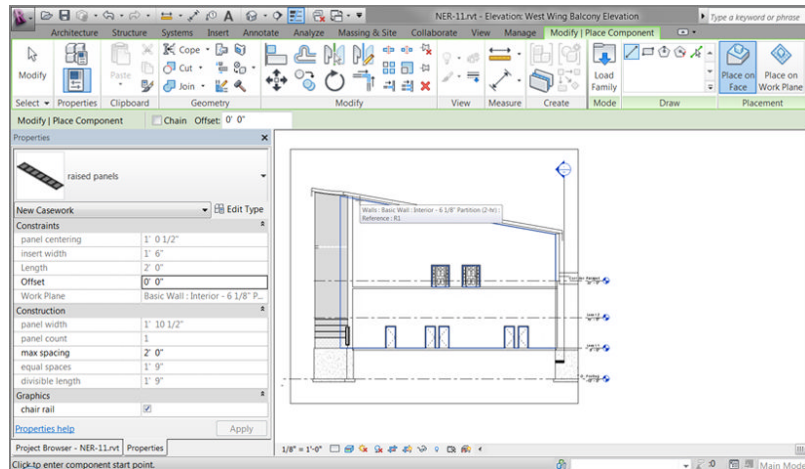

FIGURE 10.76: Picking the far wall to establish a work plane
8. Pick a point, as shown in Figure 10.76; then press Esc.
13. Scroll down the Type Selector list until you find Raised Panels (see Figure 10.76).
15. Pick the far wall (see Figure 10.76). If you don't have the raised panel family, you can download it at the book's web page; it's called `Raised Panel.rfa`. Once it's downloaded and loaded into the model, proceed with the next step.